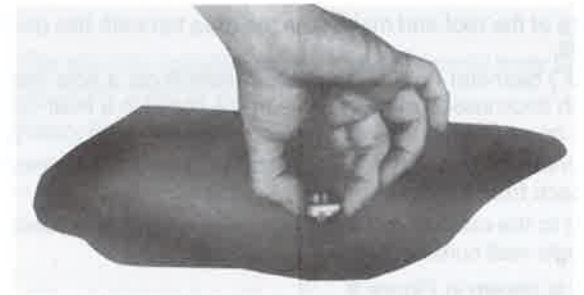

Figure 7 Locking Nut Tightening
7. Pull up on the bushing assembly as illustrated in Figure 7 and make sure it is centred and seated (both shoulders inside the drilled hole), and that the "O" ring is in the groove in the locking nut. (As furnished, the "O" ring has been placed in the locking nut groove and imbedded in silicone grease.) Tighten the locking nut until it bottoms *firmly* against the roof top.